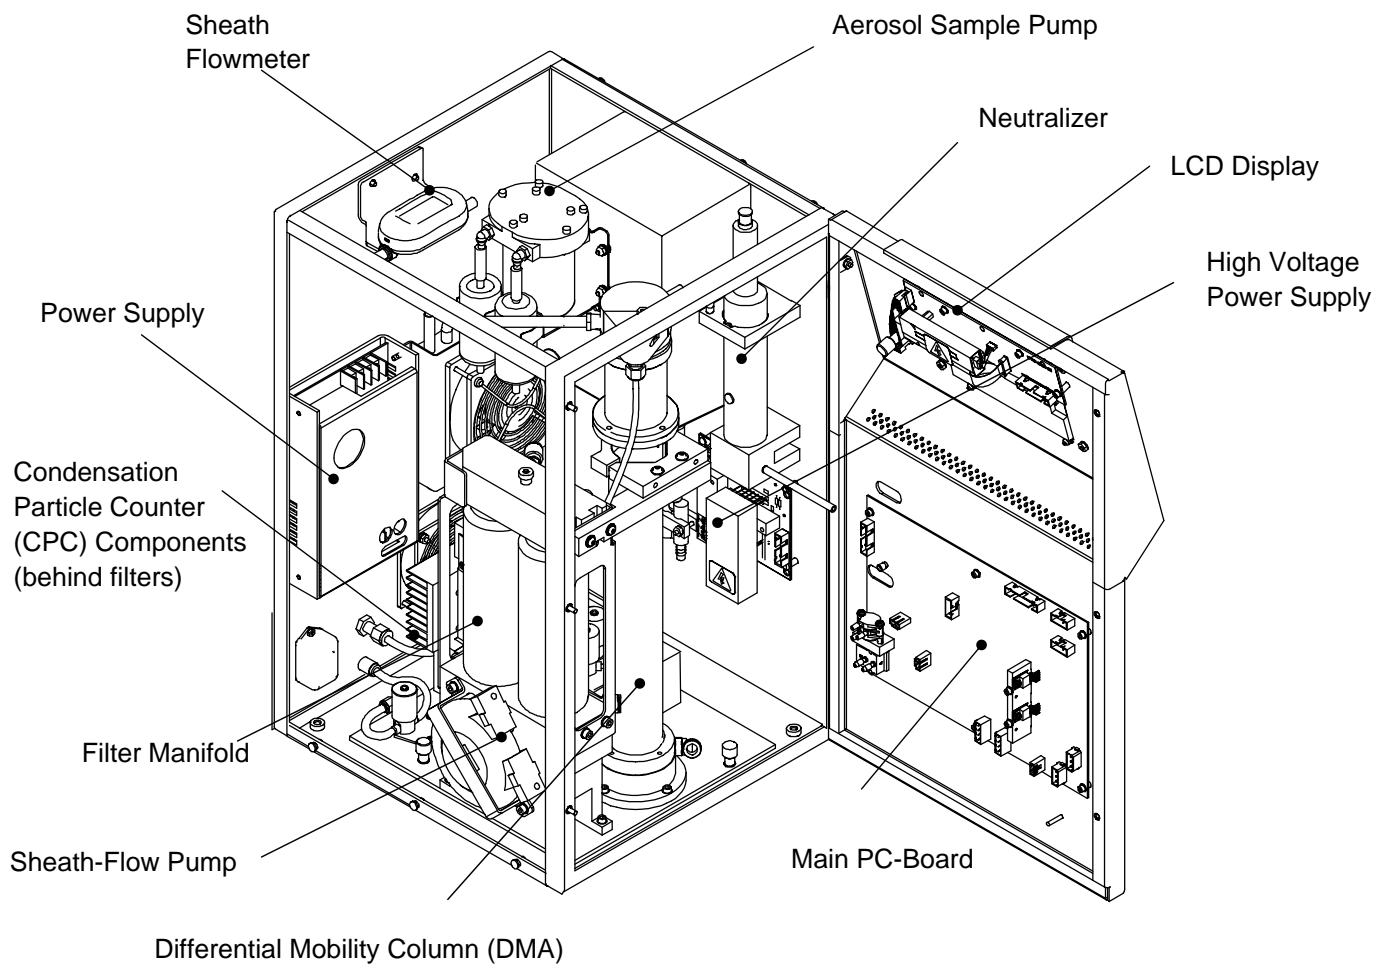

Figure 3-3
As shown in Figure 3-3, the back panel has power and data connections, a drain, and cooling fans.
The main internal components are shown in Figure 3-3.
2. Insert the bottom Neutralizer port into the lower bracket as seen in Figure 3.3.